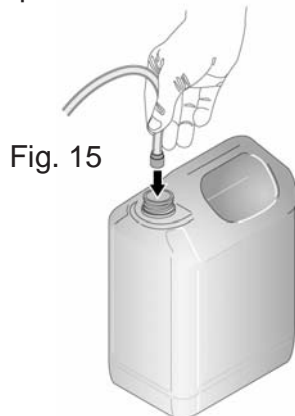

Fig. 15
- 3) Insert the injection tube into the container all the way to the bottom. (Fig. 15)